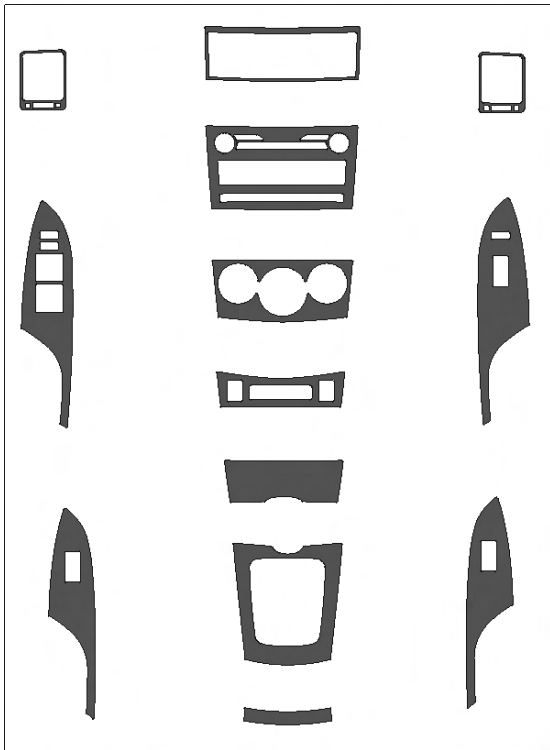

Fig. 1-1
- (a) Check kit for content and damage. (Fig. 1-1)